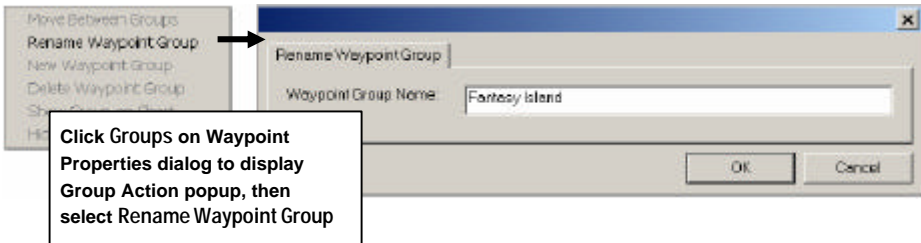

Figure 4-22. Renaming a Waypoint Group
4. Select **Rename Waypoint Group**. The Rename Waypoint Group dialog box is displayed (Figure 4-22).